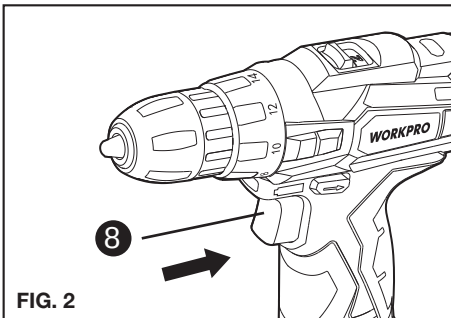

FIG. 2
1. ON / OFF SWITCH (SEE FIG. 2)